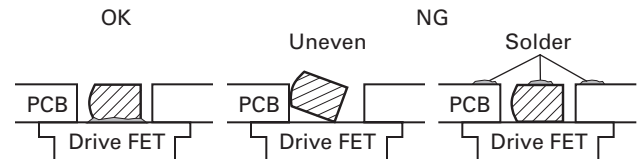

Fig. 3
5. The solder melts and binds the FET and the cube securely. Then, slide the soldering iron along the PCB surface to cool the soldering down ( ④ ). If the heat conductor cube comes off from the PCB or the soldering can be seen on the top of the plate, the soldering has not been successful. The soldering must bind the heat conductor cube and FET securely (see the figure 3).